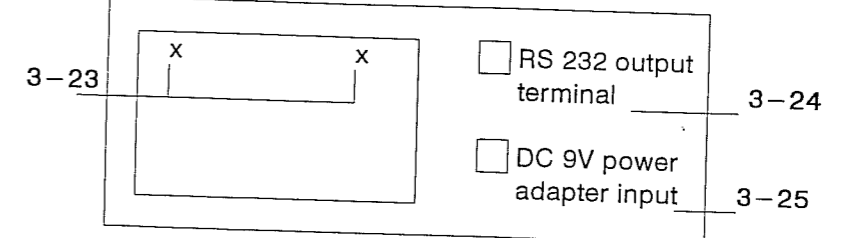

Fig. 1
- 1) Push the " Power Switch " (3-13, Fig. 1), all the display segments will bright then show 0 or some random values. Now the instrument is ready for measurement.
- 2) Push the " Range Switch " (3-15, 3-16, 3-17, Fig. 1) to the " 10 MHz ", " 500 MHz " or " 2.7 GHz " position according to the measurement required.
- 3) a. Input the measured signal to Channel A/BNC socket (3-2, Fig. 1) via. BNC cable (optional, PB-21 or BB-22) if the measured frequency is within 10 MHz.
b. Input the measured signal to Channel B/N type socket (3-3, Fig. 1) via N type cable (optional, NN-23) if the measured frequency is within 10 MHz to 500 MHz.
c. Input the measured signal to Channel C/N type socket (3-4, Fig. 1) via N type cable (optional, NN-23) if the measured frequency is within 100 MHz to 2700 MHz.
- 4) According the different input range, select the Sensitivity Switch (3-19, 3-20, 3-21, Fig. 1) to the " HIGH " (high sensitivity) or " NORMAL " (normal sensitivity) position.
- 5) Slide the Gate Time Switch (3-18, Fig. 1) to the " FAST " or " SLOW " position to determine the convenient sampling time & display resolution.
- 6) The display unit is Hz for 10 MHz range. The display unit is MHz for 500 & 2.7 GHz range. The Gate Indicator (3-22, Fig. 1) will be flashed one for each sampling time passed.
* If select to " SLOW " position, then push The RESO. button (3-10, Fig. 1) at once 3 times will result 3 kinds Sampling Time & Resolution combination. For more details please see the following table :
During the measurement, it will hold the display values, if push the " HOLD Button " (3-8, Fig. 1) at once.
- 1) During the measurement, the circuit will memorize the last measured values if push the " REL. Button " (3-9, Fig. 1) at once, then LCD will show "0" & a "REL" marker appear on the right down corner.
- 1) Input the measured signal to Channel A/BNC socket (3-2, Fig. 1) via. BNC cable (optional, PB-21 or BB-22)
- 2) Select the " Period Switch " (3-14, Fig. 1) Select the " 10 MHz range Sensitivity Switch " Switch (3-19, Fig. 1) to the " HIGH " (high sensitivity) or " NORMAL " (normal sensitivity) position.
- 3) Slide the Gate Time Switch (3-18, Fig. 1) to the " FAST " or " SLOW " position to determine the convenient sampling time & display resolution.